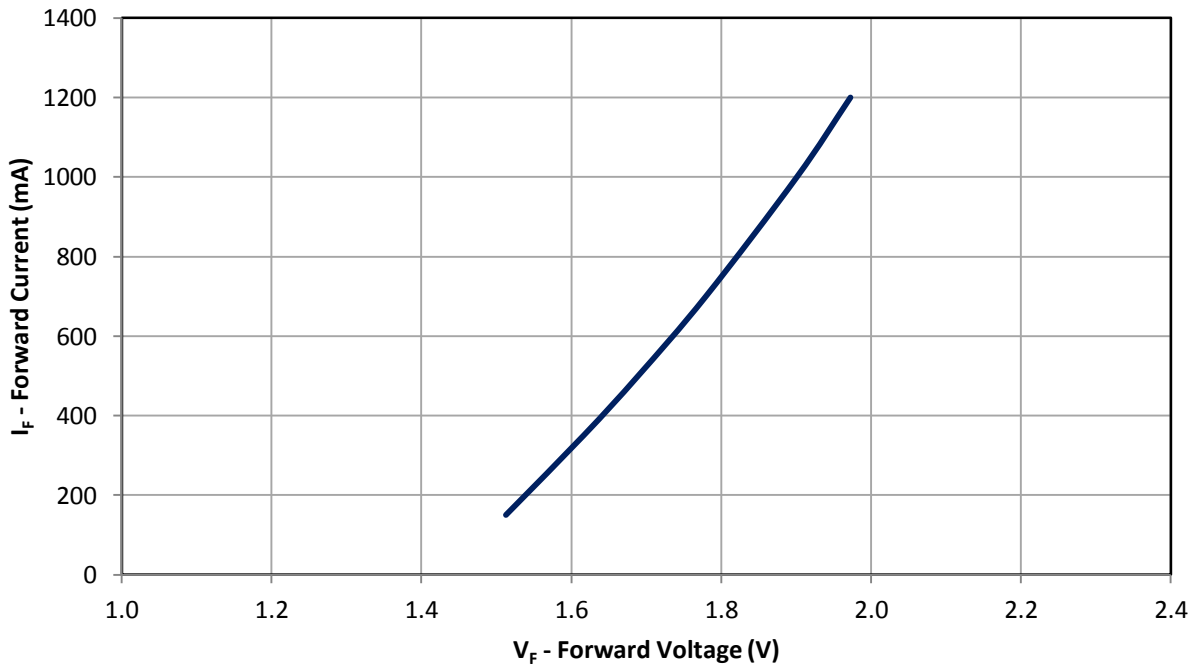

Figure 10: Typical forward current vs. forward voltage @ T_c = 25°C
- Maximum DC forward current is determined by the overall thermal resistance and ambient temperature. Follow the curves in Figure 10 for current derating.